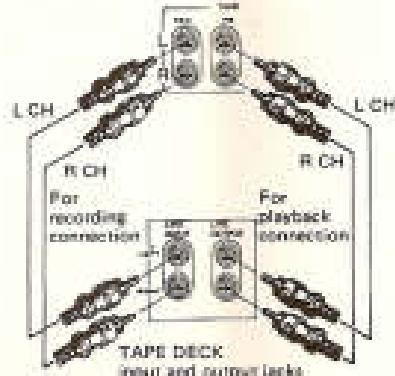

Fig. 8 — Connecting the BX-7730 to tape deck.
- Connect the Receiver TAPE 1 REC output jacks to the tape deck recording input jacks (LINE INPUT), as shown in Fig. 8. The upper jack is for the left (L) channel and the lower for the right (R) channel.